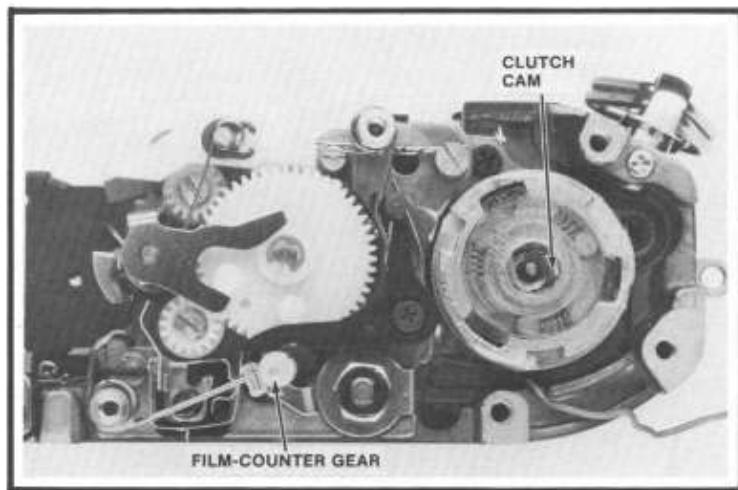

Figure 75
9. Push the first-curtain brake lever toward the back of the camera. Then seat the film-counter gear within its bearing hole as shown in Fig. 75. Note the position of the notch in the top section of the film-counter gear. After you replace the counter mechanism, you may have to reposition the film-counter gear to time the notch to the counter teeth. Push the first-curtain brake lever toward the shutter to hold the film-counter gear in place.
10. Check the position of the clutch cam in the center of the one-way clutch, Fig. 75. The flat sides of the hole in the center of the clutch cam should be parallel with the ends of the camera body; the clutch cam is then in the proper position to receive the shaft of the winding unit, Fig. 76. If necessary, you can turn the clutch cam in a clockwise direction. Hold down the retaining plate at the top of the one-way clutch to prevent the springs and rollers from dislodging.